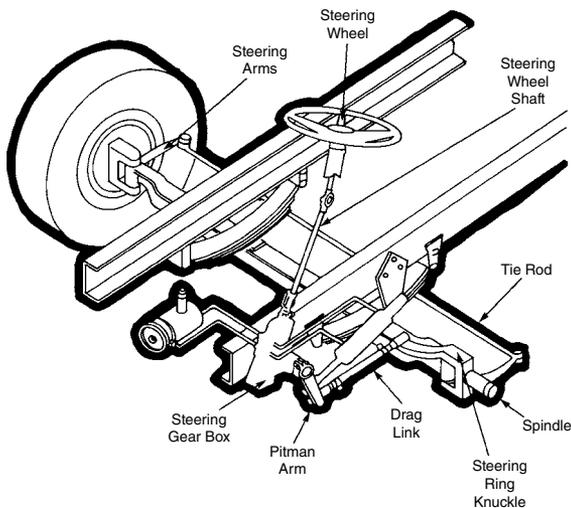

Figure 2-1
- **Steering System Defects—** (Figure 2-1) A poorly maintained steering system can cause steering problems. Look for: